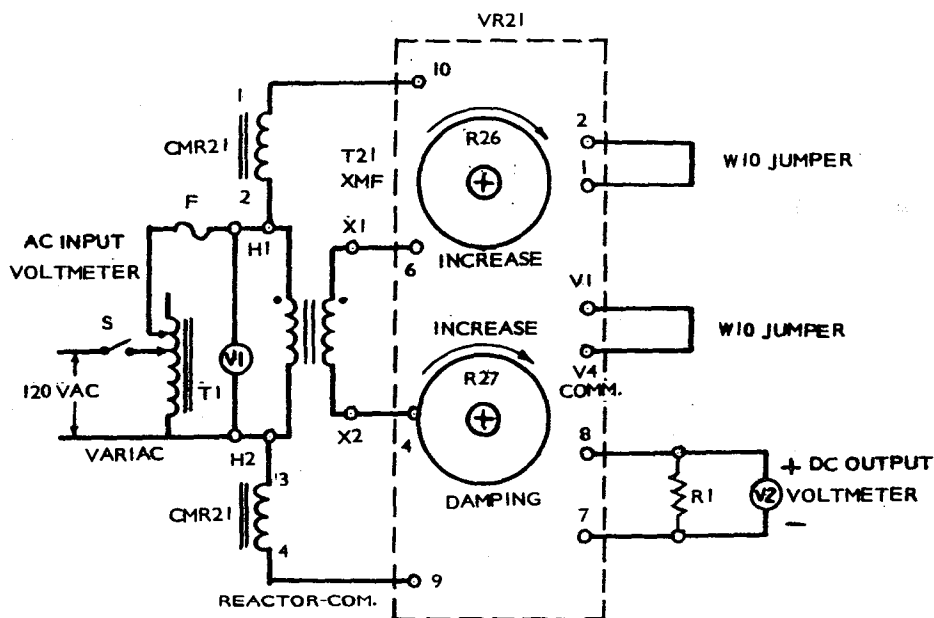

FIGURE 7. VOLTAGE REGULATOR CHECKOUT TEST EQUIPMENT CONNECTIONS
2. Referring to Figure 7 and Table 1, connect test equipment to the printed circuit board VR21 terminals as follows: